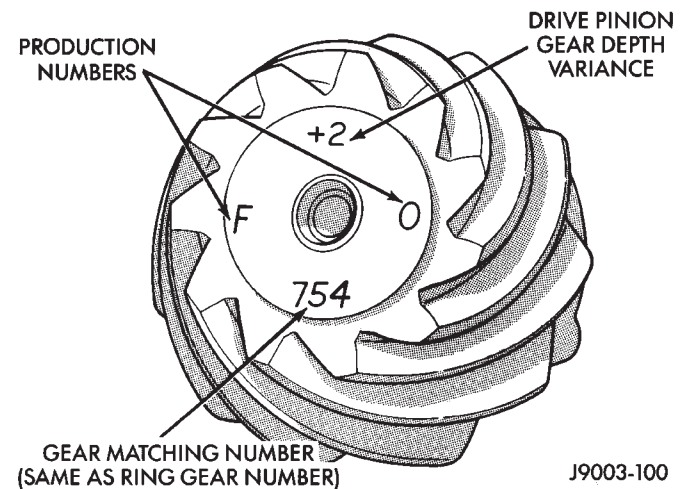

Fig. 75 Pinion Gear ID Numbers
Ring and pinion gears are supplied as matched sets only. The identifying numbers for the ring and pinion gear are etched into the face of each gear (Fig. 75). A plus (+) number, minus (-) number or zero (0) is etched into the face of the pinion gear. This number is the amount (in thousandths of an inch) the depth varies from the standard depth setting of a pinion etched with a (0). The standard setting from the center line of the ring gear to the back face of the pinion is 109.52 mm (4.312 in.). The standard depth provides the best teeth contact pattern. Refer to Backlash and Contact Pattern Analysis Paragraph in this section for additional information.
(9) Select a shim equal to the dial indicator reading plus the drive pinion gear depth variance number etched in the face of the pinion gear (Fig. 75) using the opposite sign on the variance number. For example, if the depth variance is -2, add +0.002 in. to the dial indicator reading.